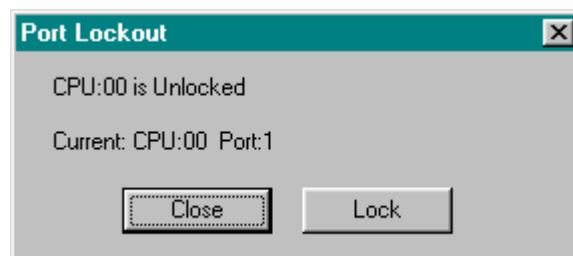

Figure 6.12a
1. Click **P**ort Lockout from the PLC **U**tilities menu (Alt+U, O). The Port Lockout dialog box appears (Figure 6.12a). Click **Lock or Unlock** from the Port Lockout on the Port Lockout dialog box.